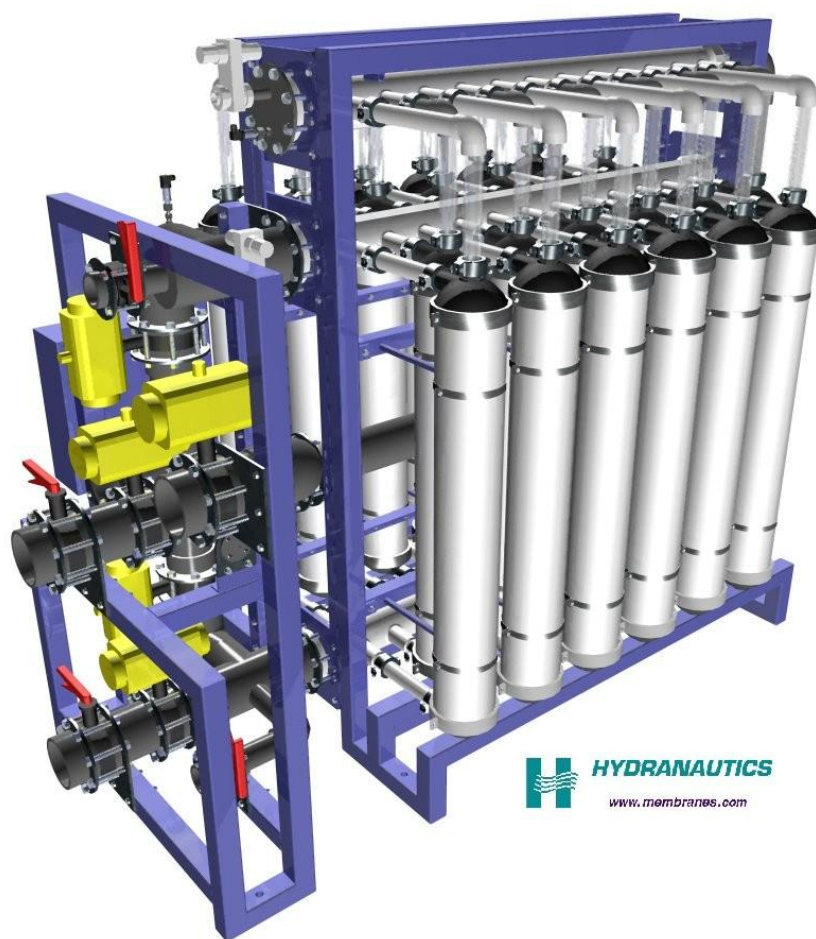

Figure 2: Sample Rack Assembly
4. A suggested rack design is shown below in figure 2. Hydranautics suggests double Victaulic flexible joints to connect all three ports of each module to the rack piping for the following reasons: